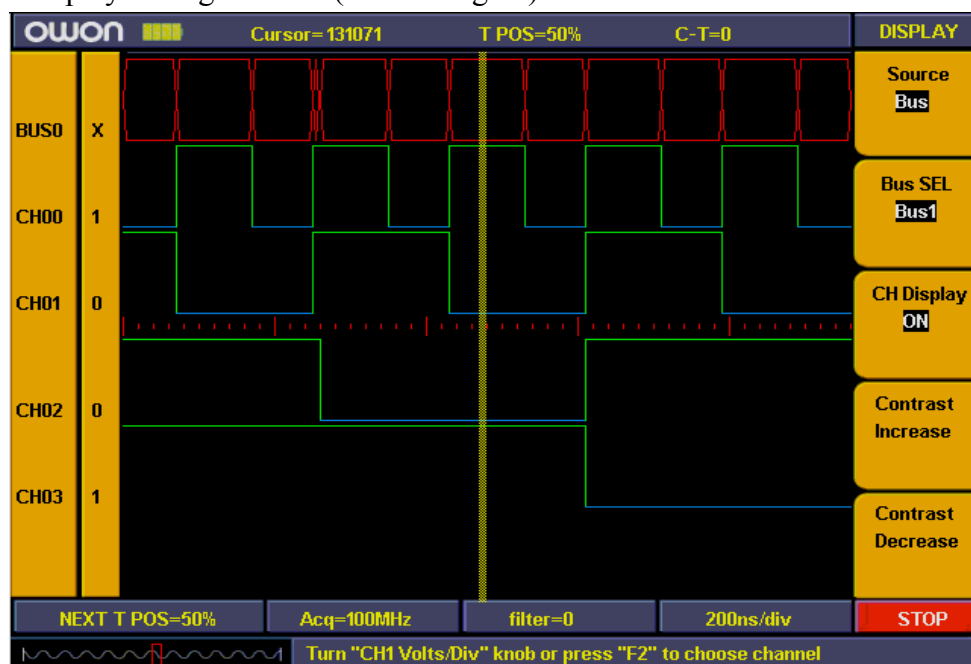

Fig. 95: Display setting
- Channel display setting finished (refer to Fig.95)